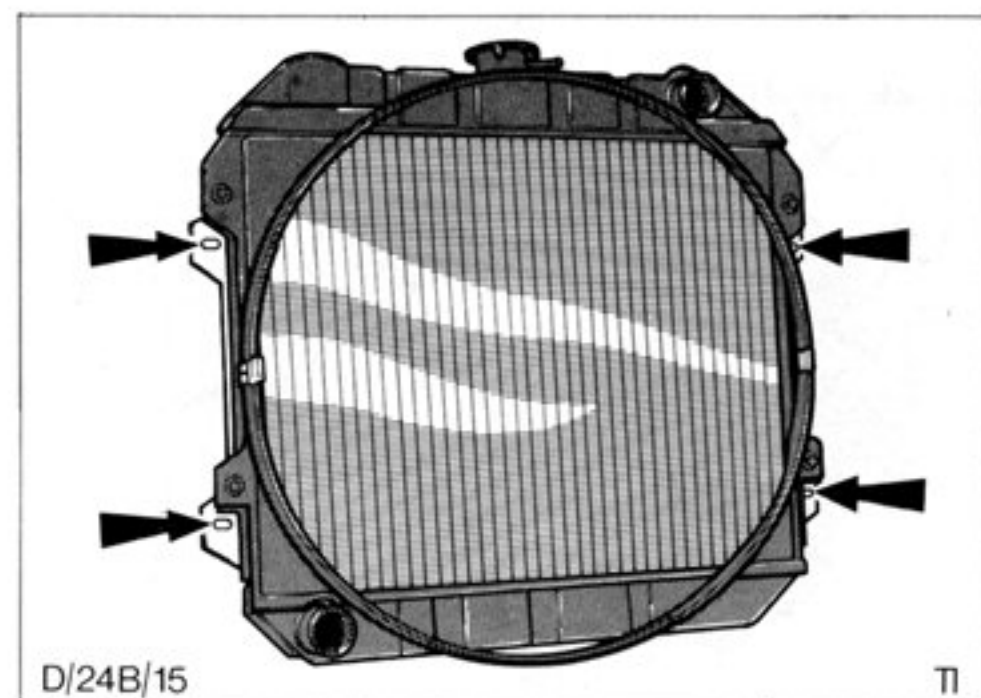

Fig.19. Radiator securing bolt holes (radiator removed from vehicle for clarity).
9. Locate radiator and secure with four retaining bolts, Fig.19.